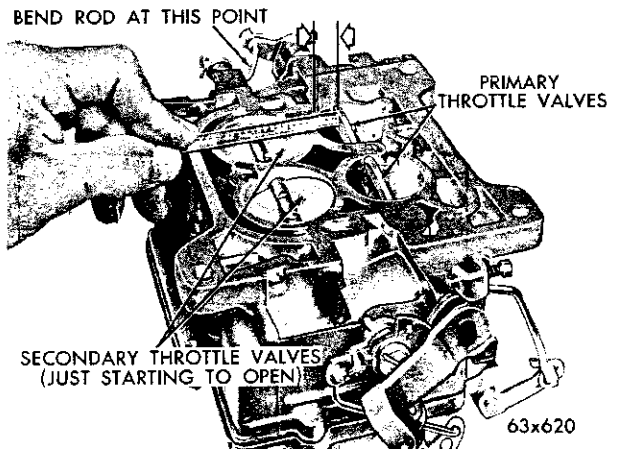

Fig. 76—Measuring the Secondary Throttle Opening
(1) Invert the carburetor and slowly open the primary throttle valves, until it is possible to measure $2\frac{3}{4}$ inch between the lower edge of the primary valve and the bore (opposite the idle port), as shown in Figure 76.
(2) At this measurement, the secondary throttle valves should just start to open. The stop lugs on both the primary and secondary throttle levers should contact the bosses on the flange at the same time.